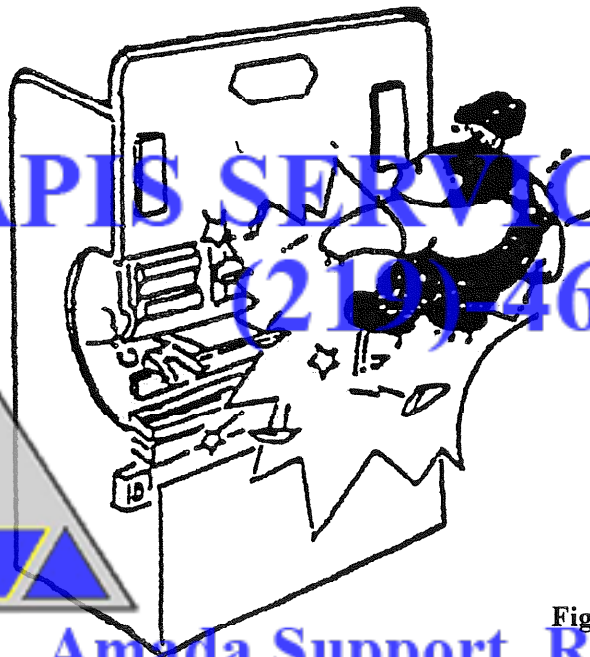

Figure 2.19
- Observe the allowable tool loads (Fig. 2.19 and Para. 5.5).